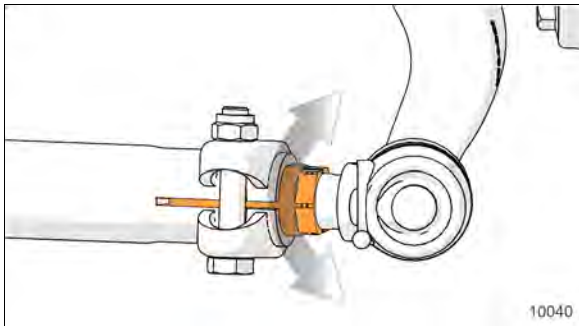

FIGURE 41: FINE ADJUSTER SLEEVE ON TIE ROD
- b. Turn the adjuster sleeve (Figure 41) until the specified toe-in measurement is obtained.